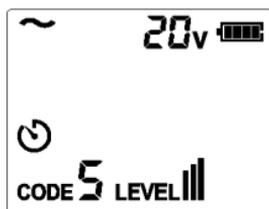

Figure 9.1c – AC Voltage Measurement
6. When the voltage is 8V~480V DC/AC (50-60Hz), and the measured voltage is AC voltage, then the display will appear the same as **Figure 9.1c**.